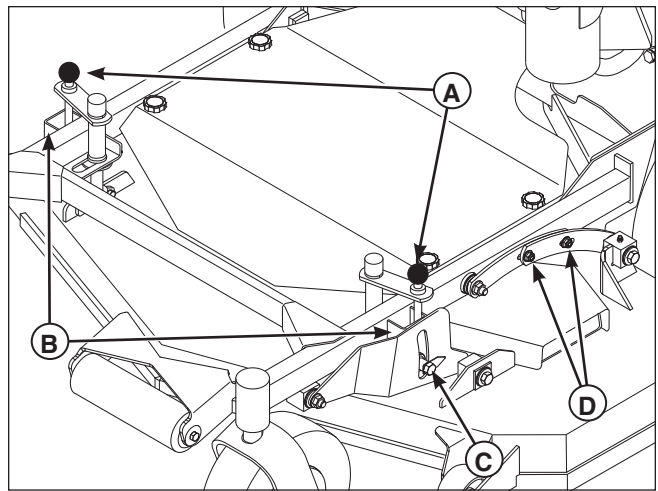

Figure 27. Deck Leveling Adjustment
2. Pull the cutting height adjustment handle (A, Figure 27) up and out of the handle lock position (B) and adjust the deck to the 3" (7,6 cm) position.
5. Loosen the deck leveling hardware (D, Figure 27) on both sides of the machine.